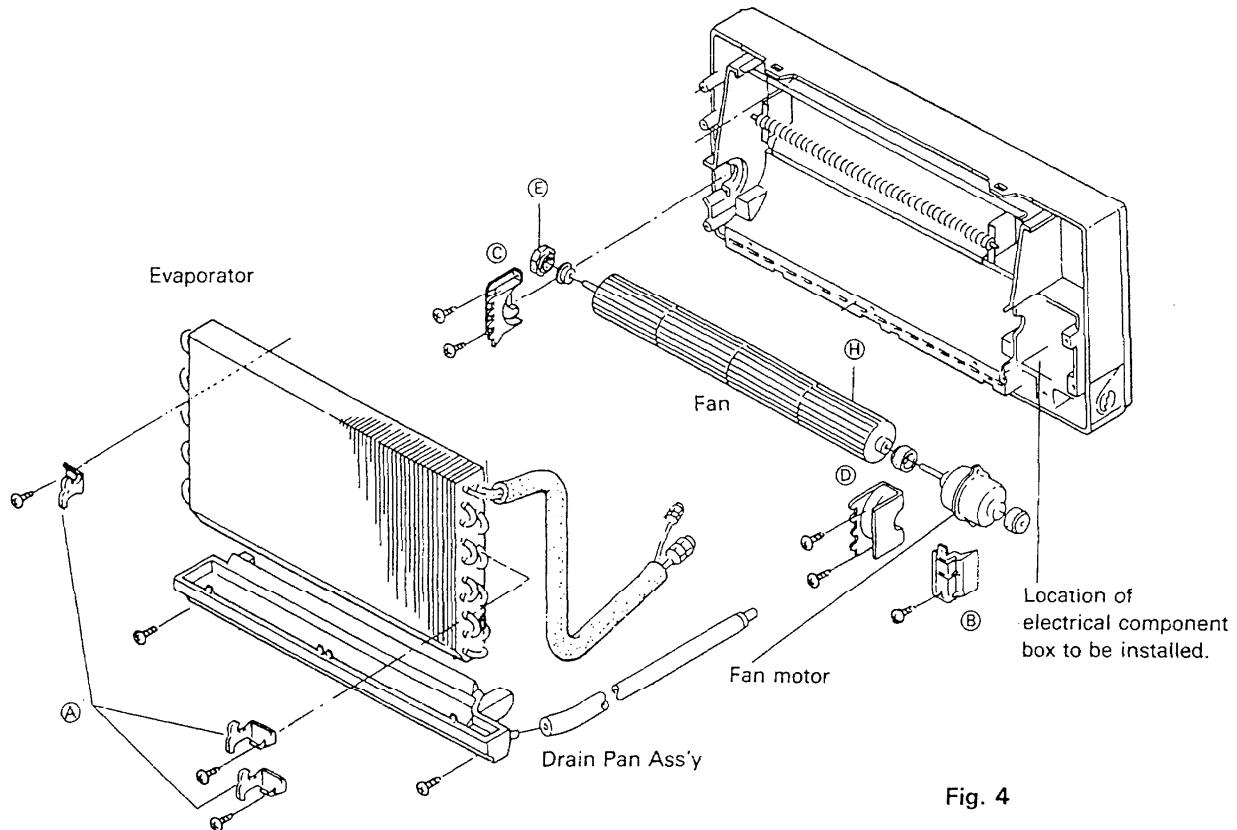

Fig. 4
- 1) As shown in Fig. 4 loosen the screws of the plastic mounting plates **(C)** and **(D)** which secure the fan, using a Phillips screwdriver, then remove the fan and fan motor.